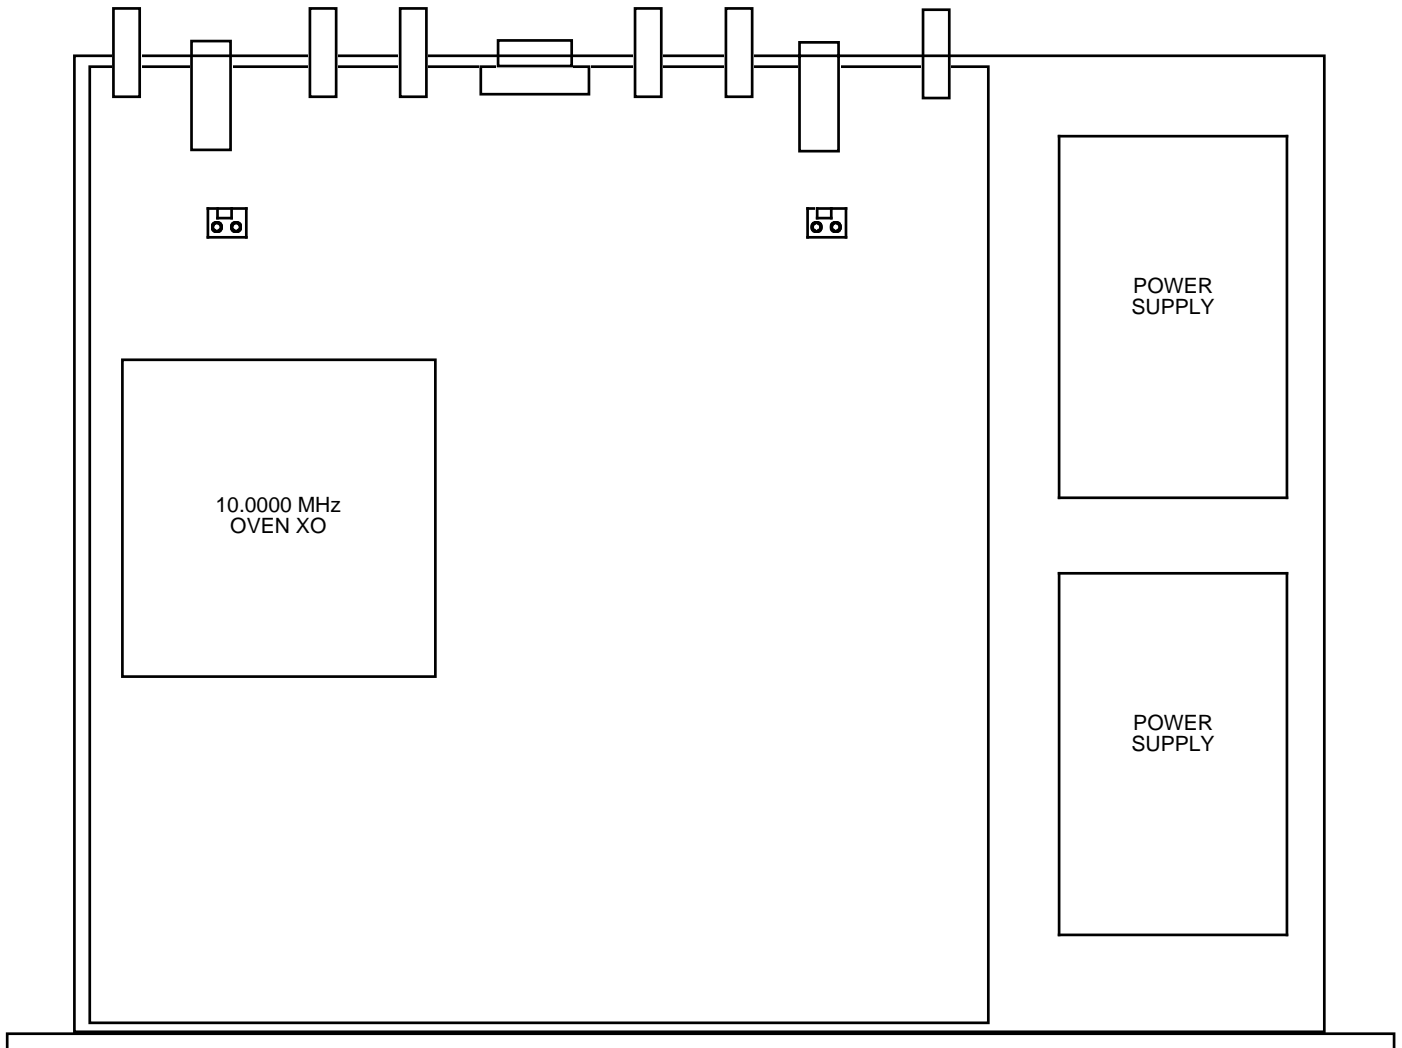

FIGURE 2.0 2099-17 Mechanical Assembly
2.1 Mechanical - The 2099-17 consists of one RF PCB housed in a 1 RU (1 3/4 inch high) by 16 inch deep chassis. A switching, ± 12 , +24, +5 VDC power supply provides power for the assemblies. A separate +24VDC power supply (+48VDC, **option V48**) provides power for the SSPB. The 2099-17 can be secured to a rack using the 4 holes on the front panel. Figure 2.0 shows how the 2099-17 is assembled.